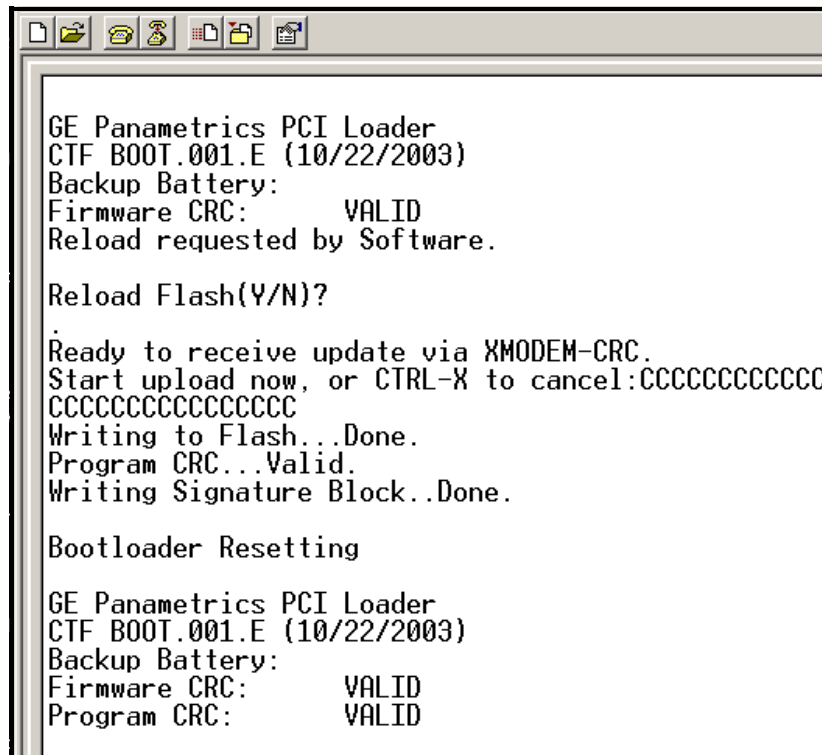

Figure 22: Final Window
7. After the update is done, the "Final Window" appears as the CTF878 reboots (see Figure 22 below).